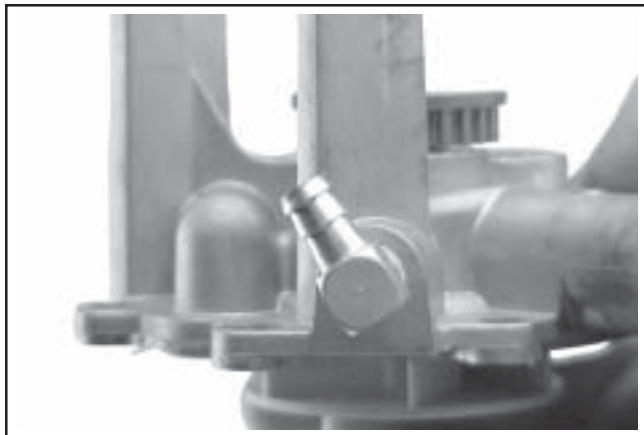

Figure 11-44. Water Pump By-pass Fitting.
2. If the water pump by-pass hose fitting was removed previously, apply **pipe sealant with Teflon®** (Loctite® 59241 or equivalent) on the threads and tighten it into pump. Orient the fitting so the outlet points in the 11 o'clock position as shown in Figure 11-44.